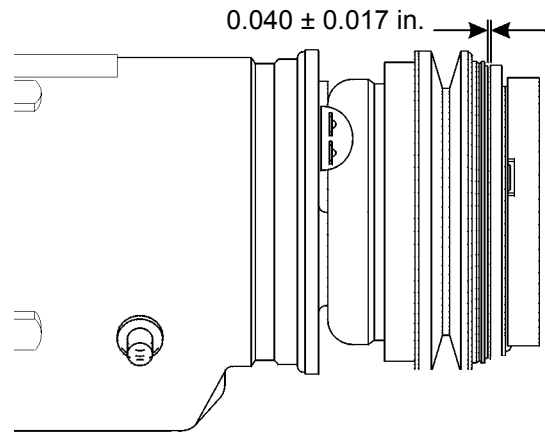

FIGURE 9-19. CLUTCH GAP
4. Press the clutch onto the compressor using installer (1). Continue to press the clutch plate until a 2 mm (0.079 in.) gap remains between the clutch friction surface and the pulley friction surface. Refer to Figure 9-19.